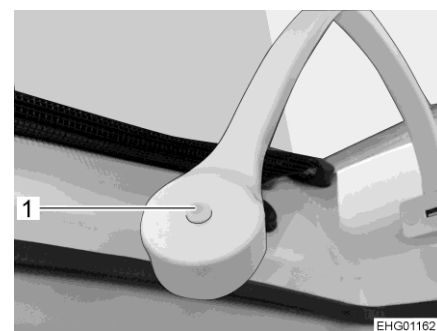

Fig. 40 Light switch
- Press the light switch (Fig. 40,1) on the back of the lamp head.